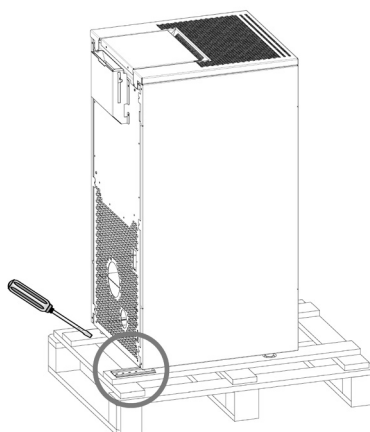

Fig. 1 - Bracket removal
- Remove the brackets which secure the feet of the stove (see **Fig. 1**). Then remove the stove from the pallet.